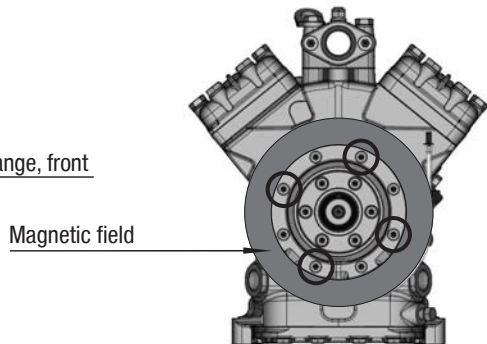

Fig. 13
- Slide the magnetic field to a snug fit and re-attach using the four cheese head screws M8 (Fig. 13). Screw torque = 34 Nm.